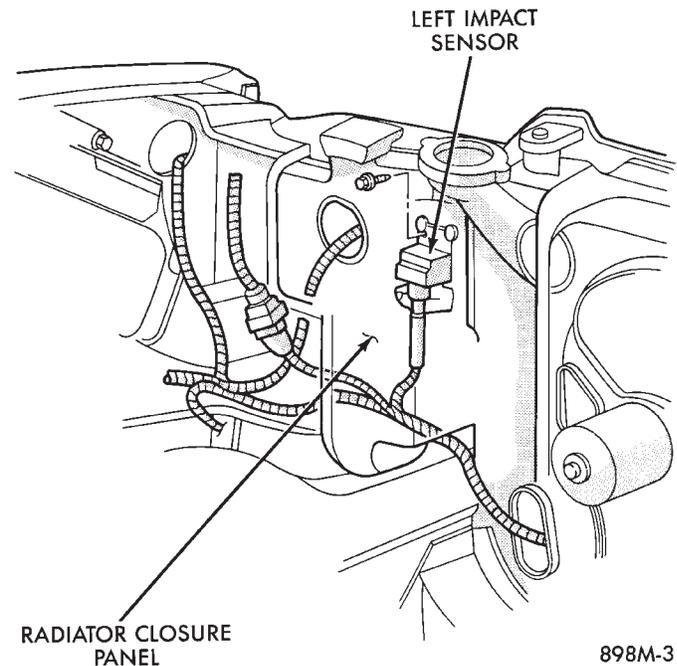

Fig. 6 Left Impact Sensor
- (1) Disconnect battery negative cable and isolate.
- (2) Disconnect speed control servo from battery tray, if equipped.
- (3) Remove battery, battery tray, engine computer, and coolant bottle.
- (4) Disconnect impact sensor electrical connector.
- (5) Remove three screws holding sensor to radiator closure panel. Remove left sensor (Fig. 6).